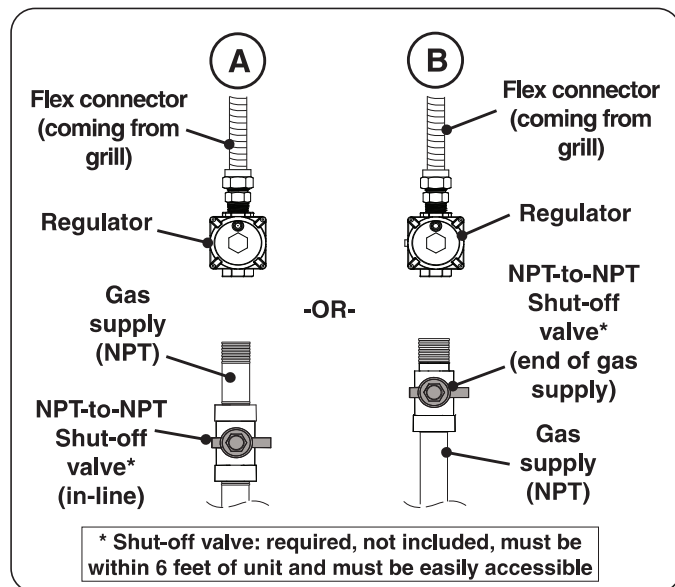

Fig. 21-1 Household propane & natural gas diagram
- Connect the regulator (on end of flex connector) to the gas supply (NPT) OR shut-off valve (NPT) using a pipe joint compound resistant to all gasses (see Fig. 21-1, A or B). Tighten securely.